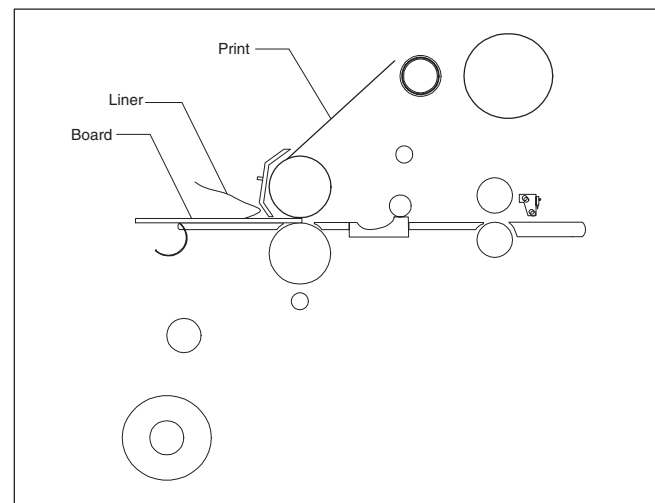

Fig 39
Tips for Mounting Pre-coated Boards (Figure 39)
1. Load the laminator as illustrated in Figure 39.